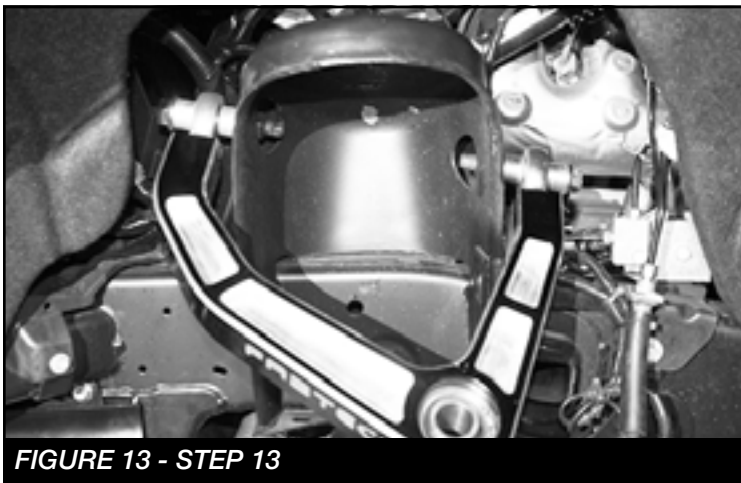

FIGURE 13 - STEP 13
13. Install the control using a supplied FT619 (Spacer) on each side of the rod end with the factory bolts and supplied M14 nuts. Leave loose at this time. **SEE FIGURE 13**